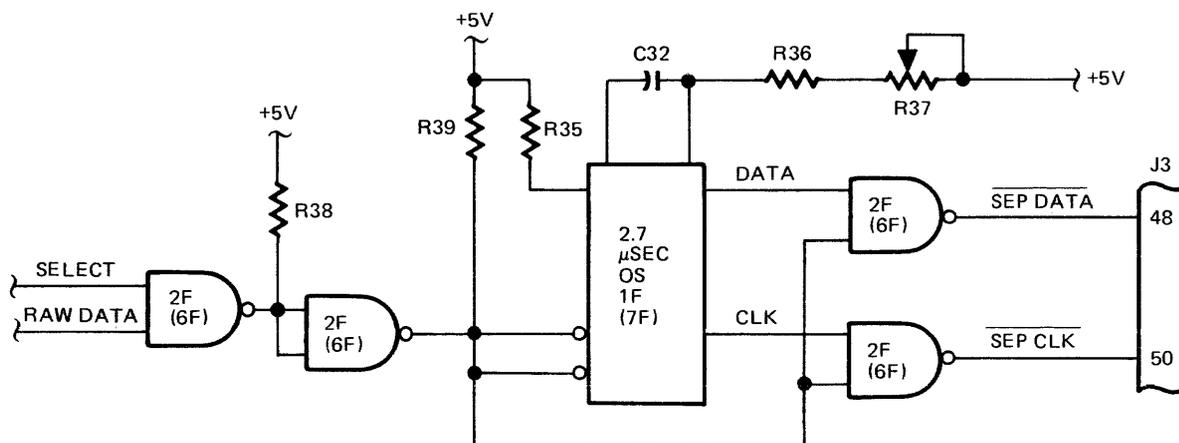

Figure 3-37. FM Data Separator (Option) Logic
The FM Data Separator option is usable only when the disk drive is used for single-density recording. Frequency modulated (FM) encoding is defined as being a pulse train wherein a clock pulse occurs every 4 microseconds, a binary one data bit pulse occurs midway between clock pulses and no pulse occurs if the data bit is a binary zero. The logic is shown in Figure 3-37.